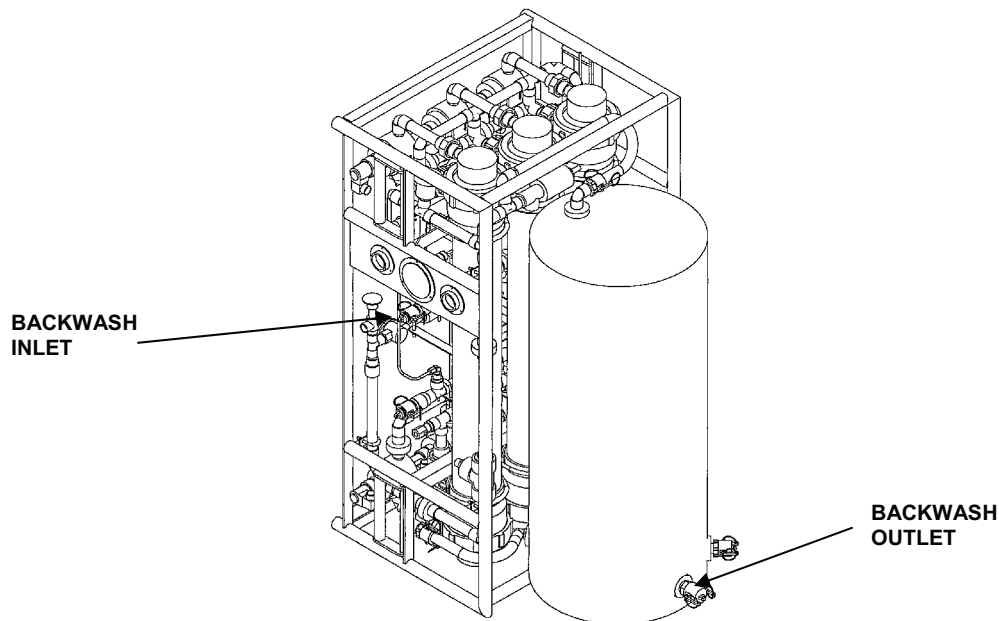

Figure 5. UF Module Connections.
14. Disconnect backwash inlet hose (yellow) from backwash outlet on the filtrate tank on Ultrafiltration (UF) module. Install the cap on the connection. See Figure 5.